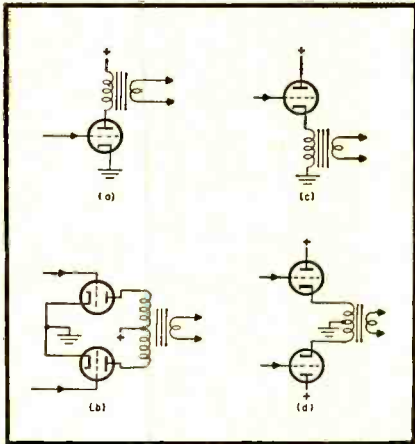

Fig. 1. Conventional single-ended and push-pull output stages.
To summarize, the loran system consists of three elements: (1) A series of land based loran transmitting stations; (2) receiving and time measuring equipment (loran receiving gear) accessible by the navigator on plane or ship; and (3) loran plotting charts. *Figure 1* illustrates the basic principles of determining position by means of loran.
One of the first circuits employed as a power amplifier is that of Fig. 1(a), which is the plate-loaded, single-ended stage. The undistorted power output is comparatively low because class-A operation is required. The presence of d.c. flux in the output transformer is a disadvantage, as is the generation of even-harmonic distortion.
The push-pull circuit of Fig. 1(b) is an improvement, since the d.c. flux in the output transformer can be canceled. At the same time, class-AB or class-B operation becomes possible, as the tube characteristics are complementary. If symmetry has been attained, even-harmonic distortion will be very low.
These two circuits have been modified by the use of cathode loading, as shown in Figs. 1(c) and 1(d). Although the output impedance is decreased, no real advantage is gained that could not be obtained by employing inverse feed-